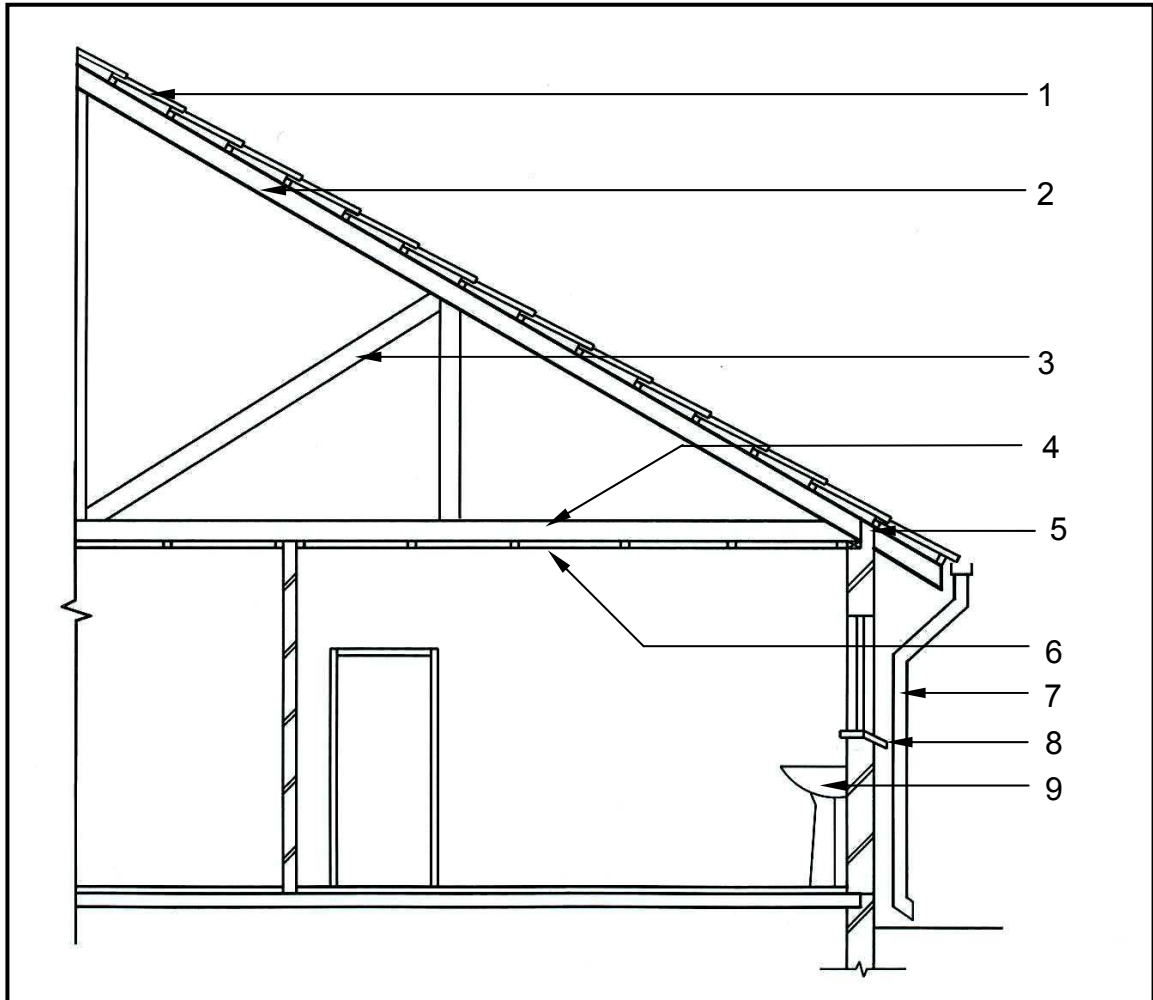

FIGURE 6.1
6.1 FIGURE 6.1 illustrates an incomplete sectional view of a part of a building. Analyse the drawing and complete the table on ANSWER SHEET 6.1.